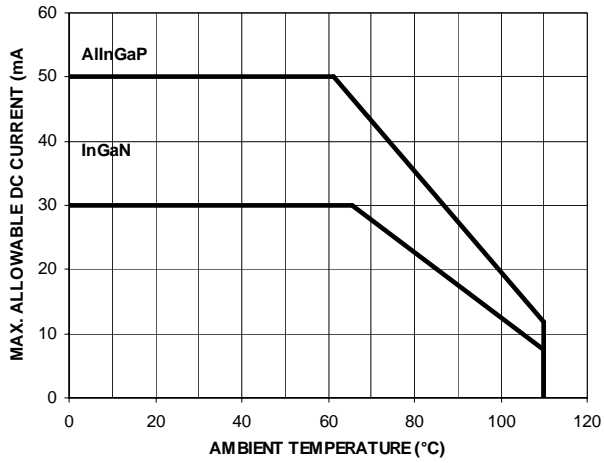
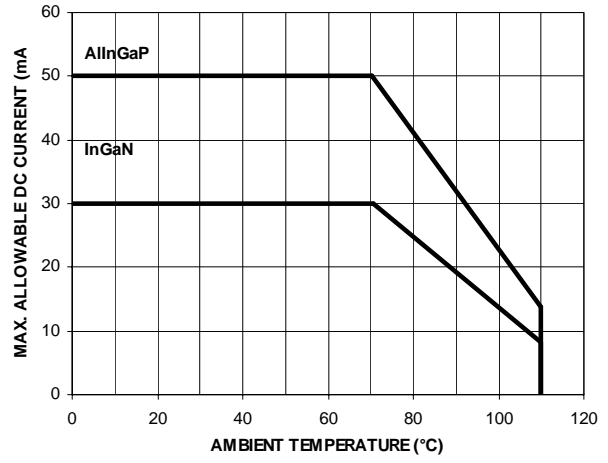

Figure 5a. Maximum forward current vs. ambient temperature. Derated based on  $T_{JMAX} = 125^{\circ}C$ . (3 chips)
Figure 5b. Maximum forward current vs. ambient temperature. Derated based on  $T_{JMAX} = 125^{\circ}C$ . (single chip)
1. Derate linearly as shown in Figure 5a & 5b.
4. Refer to Figure 5a and figure 5b for more information